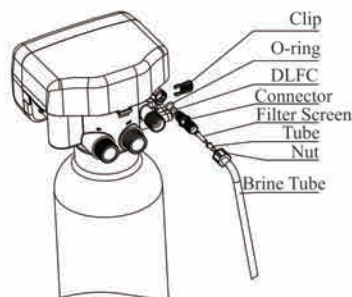

Figure 6
⑥ Connect brine tube
a. As Figure 6 shows, put drain line flow control into connector, and put O-ring.